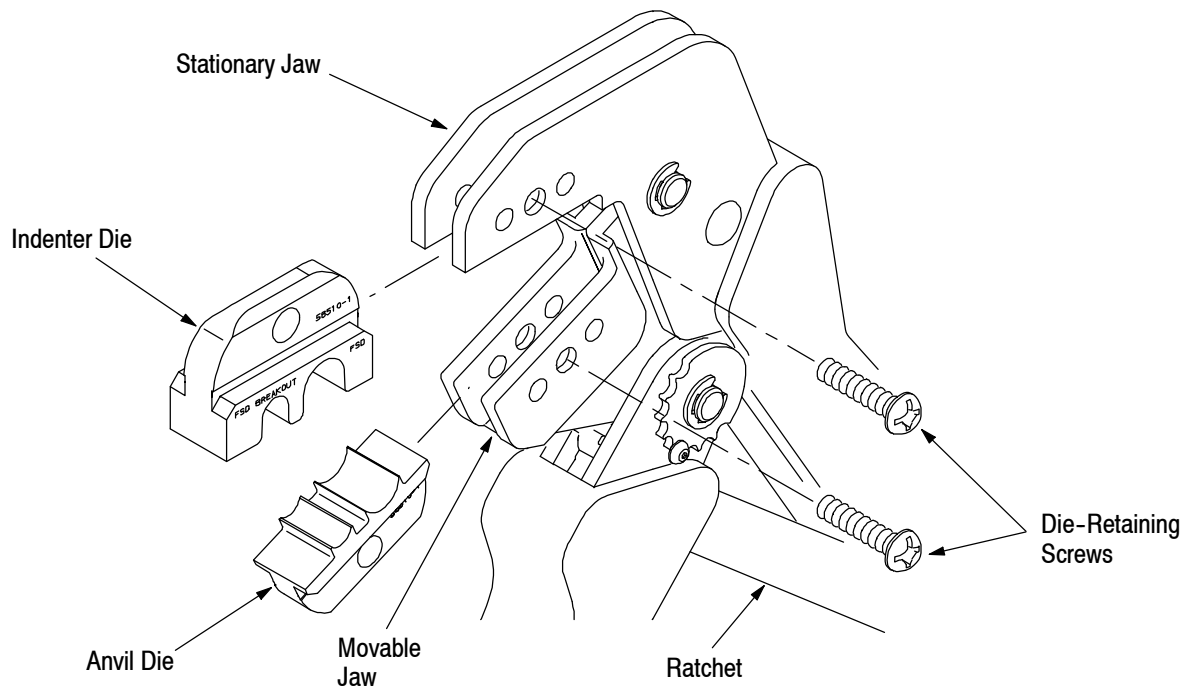

Figure 2
The die assembly features an indenter die and an anvil die. When closed, the dies form two crimping chambers, which crimp the crimp ring of the connector onto the connector strain relief and the cable strength members. The larger crimping chamber is used to crimp FSD connectors. Both chambers are used for the breakout kit assembly: the larger to crimp duplex crimp rings and the smaller to crimp simplex crimp rings. Each die is held in the tool jaws with a single screw. See Figure 2.
**3. DIE INSTALLATION** (Figure 2)